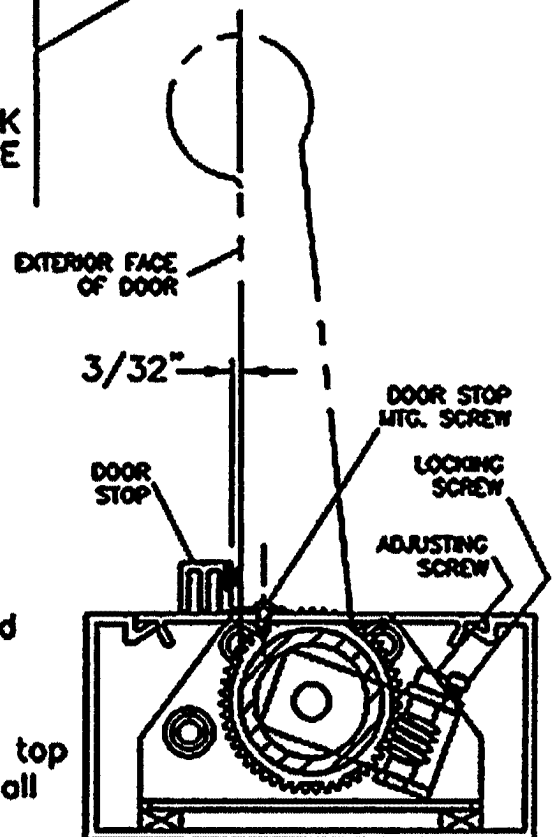

FIG. 9
13. Set main closing force (see FIG. 9).